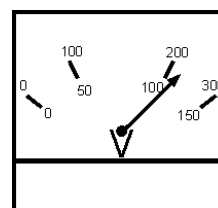
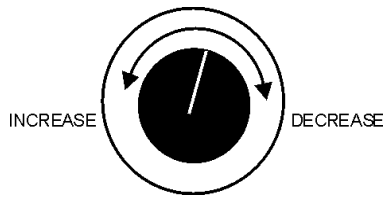

Figure 44. Voltage Meter (Volts)
Figure 45. Voltage Adjust Control Knob
11. The generator's voltage meter (Figure 44) displays the 120 VAC in **VOLTS**. If the voltage is not within the specified frequency tolerance, use the voltage adjustment control knob (Figure 45) to increase or decrease the desired voltage.